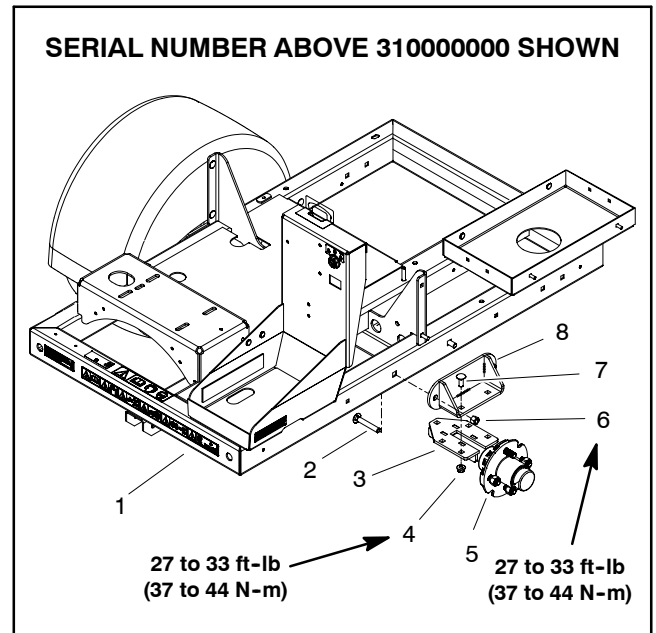
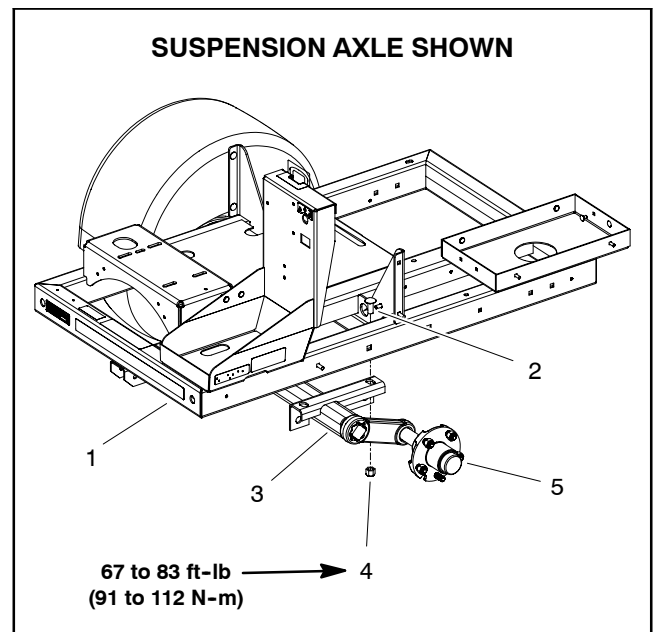

Figure 4
Figure 5
**NOTE:** Machines with serial number above 310000000 either use an axle mount that is fastened to the frame (Fig. 4) or have a suspension axle for road ready machines (Fig. 5). Wheel hub and bearing service is the same for all axle types.